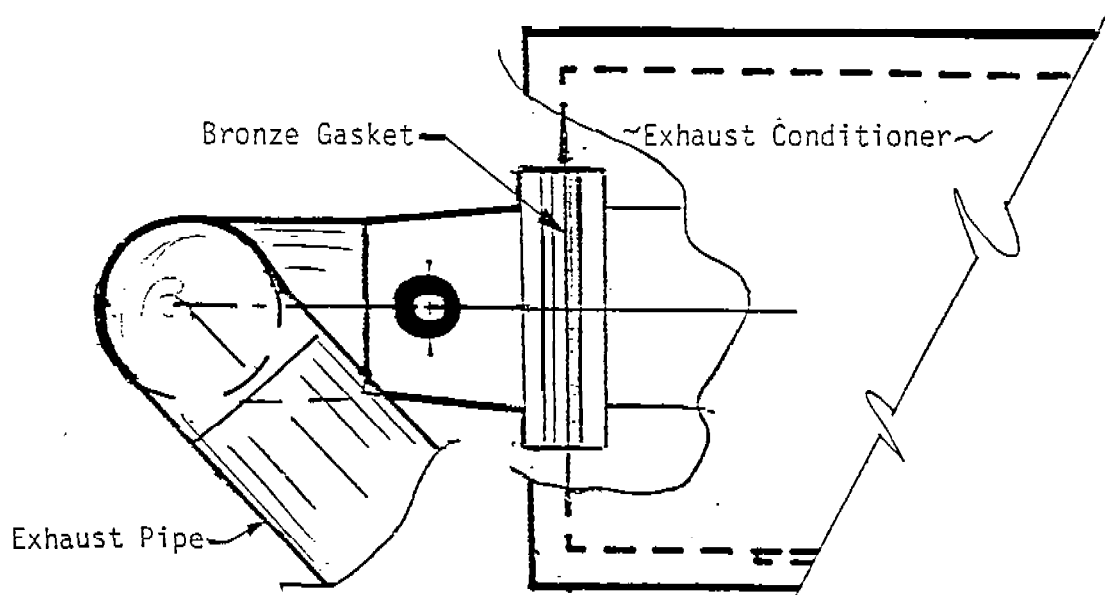

Figure 13. Gasket Between Exhaust Conditioner Flange and Scrubber Insert Flange.
24. () Connect a manometer or magnehelic to the test-port in the exhaustpipe upper flange shown in Figure 13. Run engine at full throttle/no load with exhaust conditioner filled to the normal operating level. The exhaust backpressure does not exceed 40 inches of water column.